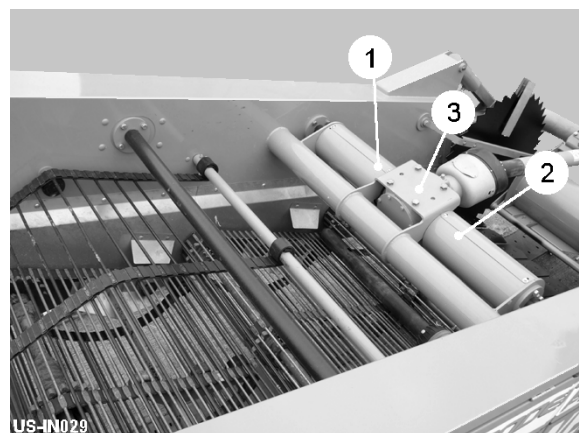

Fig 9
Each web is driven via a toothed belt. For adjustment see the maintenance section of this handbook. The webs are protected by two slip clutches (item 1 & 2, fig 9) located under the guards either side of the main gearbox (item 3, fig 9). The slip clutches are preset at the factory to 1350 Nm.